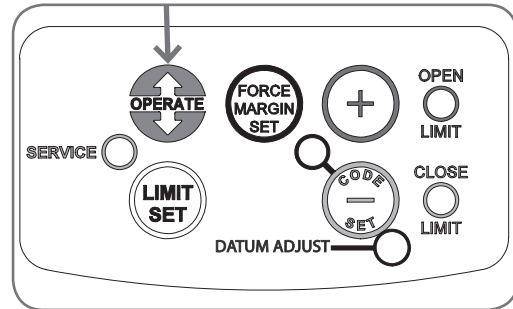

Fig. 27
- Press the OPERATE button to open the door (**Fig. 27**).
- Press the OPERATE button to close the door (**Fig. 27**).